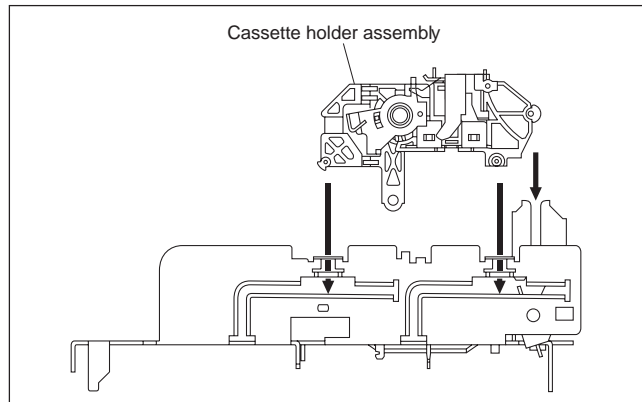
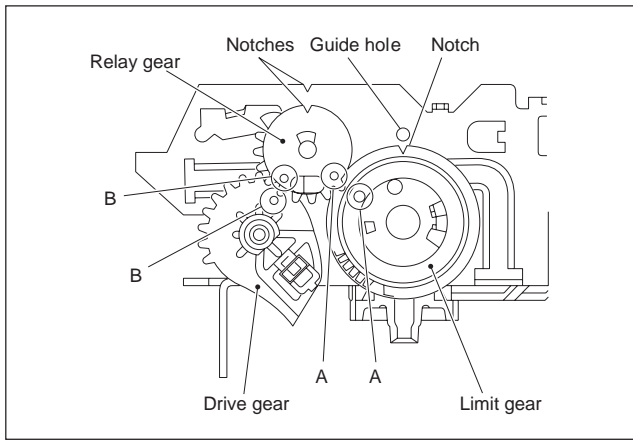

Fig.3-2-3h
Fig.3-2-3i
- (5) Drop the three legs on the left side of the cassette holder assembly into the groove at one time. (See Fig.3-2-3h.)
- (6) Slide the whole cassette holder assembly toward the front to bring it to the eject end position.
- (7) Install the limit so that the notch on the outer circumference of the limit gear is brought into alignment with the guide hole on the main deck. (See Fig.3-2-3i.)
- (8) Install so that the notch on the periphery of the relay gear is aligned with the notch of the main deck and that hole A of the relay gear is aligned with the hole A of the limit gear and that hole B of the relay gear is aligned with the hole B of the drive gear. (See Fig.3-2-3i.)
- (9) Install the door opener, opener guide, spring(A) and cassette housing bracket and fasten the two slit washers.